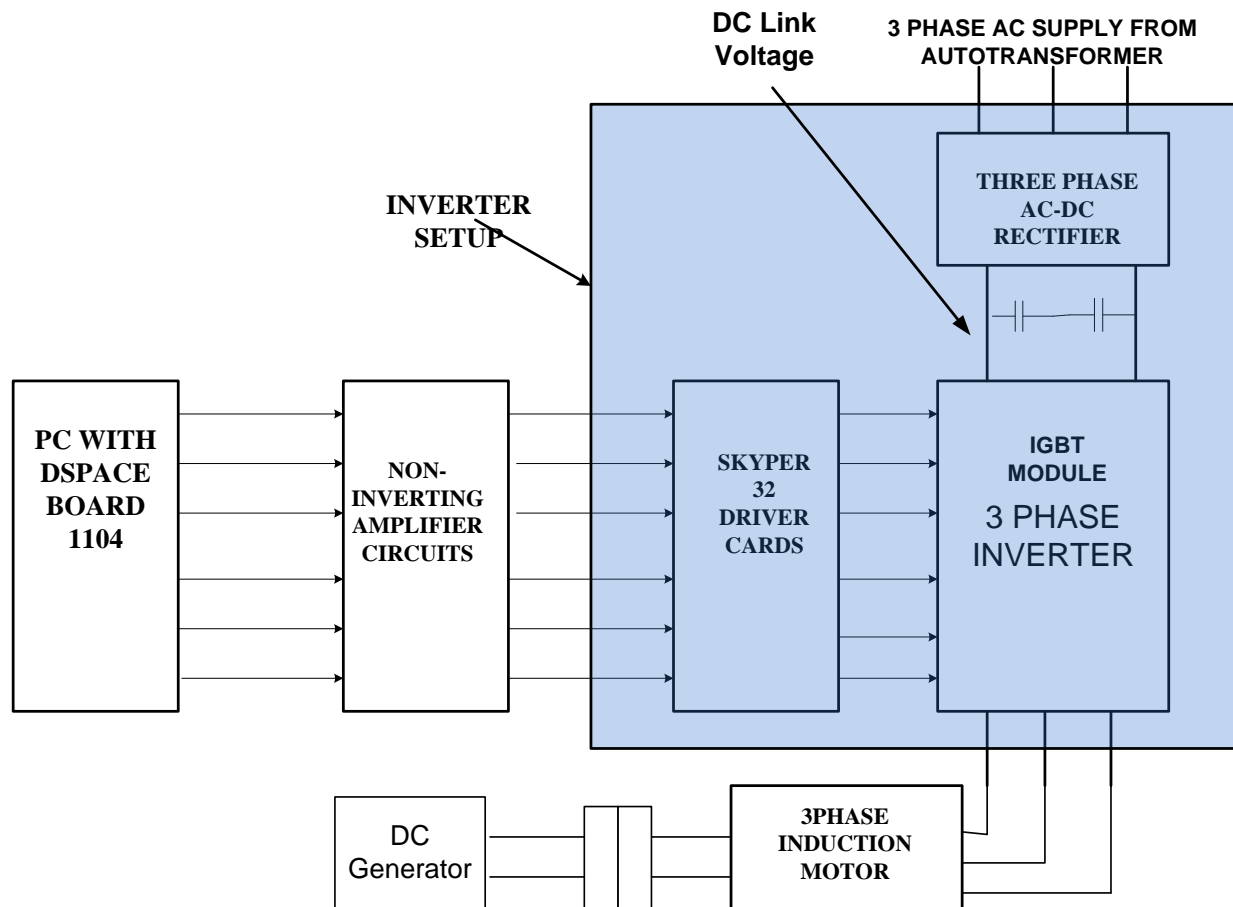
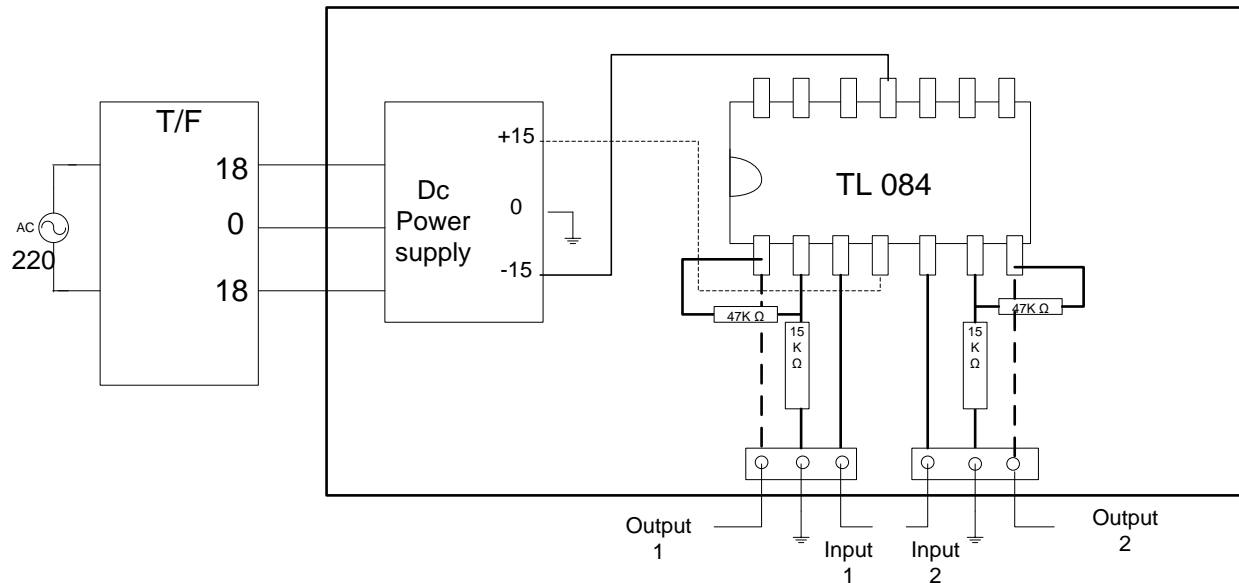

Fig. 1. The schematic for three phase inverter system.
Fig. 3. Non-inverting Amplifier circuit
The set up in our laboratory has AC to DC rectifiers and then DC to AC inverters. The ac to dc rectifiers is used to generate dc link voltage. To vary the dc link voltage, we can feed the ac power using three phase autotransformer. The inverter has inbuilt driver Circuit (Skyper32R) in it, which needs the +15V power supply and the gate signal for the switches should have voltage level of 0/15V. The setup has facility that we can give the control signal from the outside which can be generated from dSPACE board. The output of dSPACE board is of TTL logic i.e., 0/5V, so we need to amplify the signal using non inverting amplifier circuit. The non-inverting amplifier (fig.3) circuit needs an ac input of 18-0-18 Volts from center-tapped transformer, to generate the power supply of $\pm 15V$ which is needed for the non-inverting amplifier circuit. The non-inverting amplifier circuit is given input of 5Volts and it is amplified to the level of 15V. The schematic for the entire setup for three phase inverter is given in the fig.1.
- f) One board of non-inverting amplifier circuit has two amplifier circuits in it. (see fig3). It has an inbuilt power supply of ± 15 V. Two signals for the switches (switches 1 and 4 or 3 and 6 or 5 and 2) of same leg should be given in the same board. The output of the amplifier should be fed to driver circuits. And the same board should be used to give the power supply to the driver circuit (Skyper32). Care should be taken that before switching on the ac power given to the amplifier board,